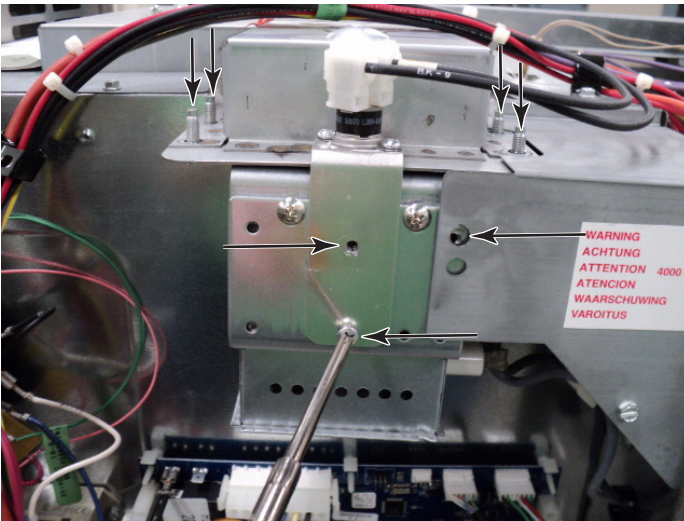

Figure 5
5. Remove hex head screw from inlet air duct (Figure 5).
6. Remove four hex head screws from magnetron and remove HV wires from magnetron and remove magnetron (Figure 5 & 6).